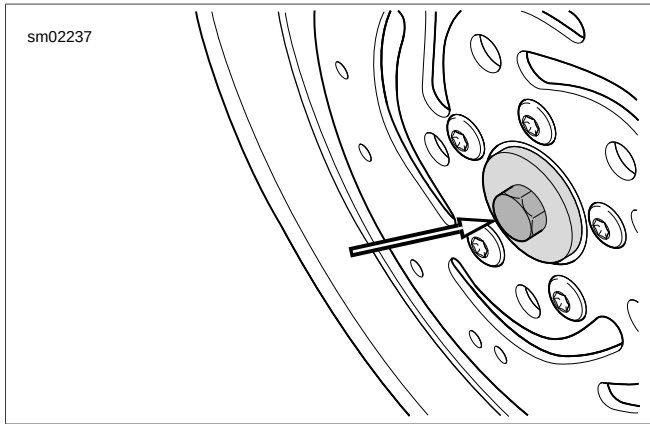

Figure 2-17. Installation Tool Support Plate
- b. See Figure 2-17. Place threaded rod through support plate. Insert assembly through wheel.